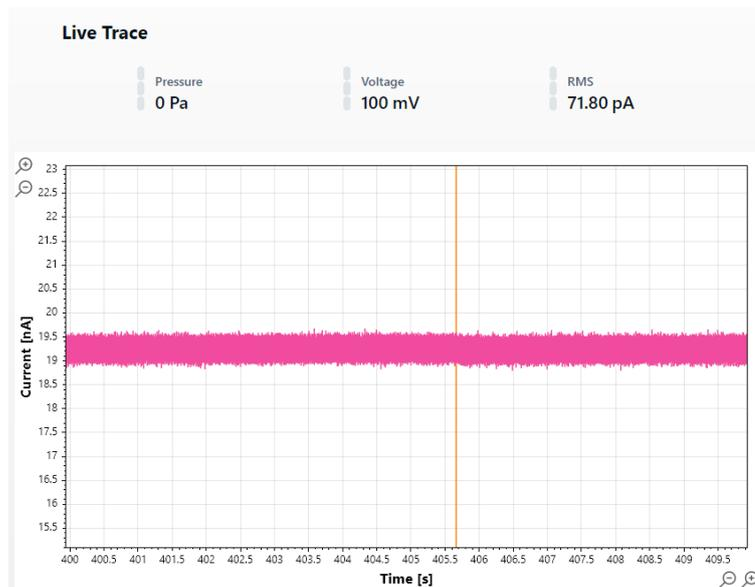

Figure 12. Live Trace window.
3. Monitor the baseline current in the Live Trace window (Figure 12). If the baseline is drifting up or down, wait for it to stabilise before proceeding.